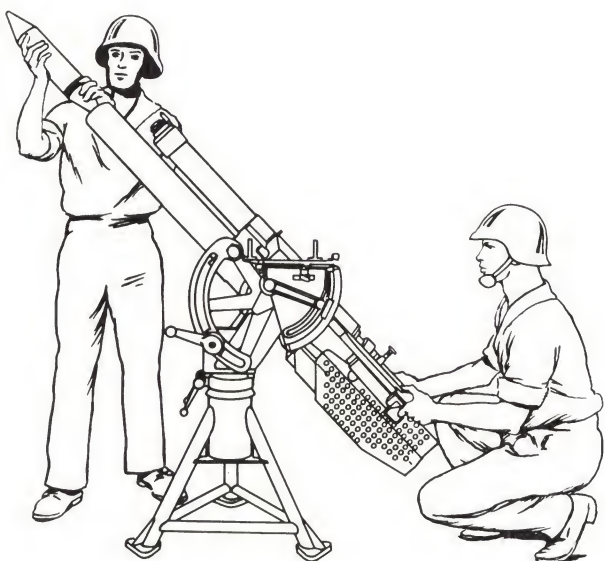
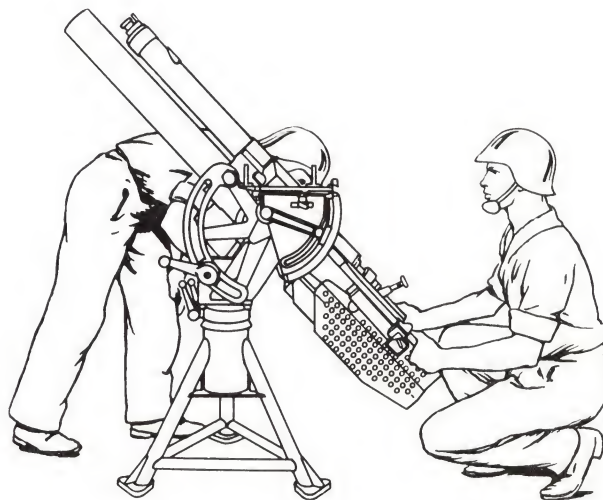

Figure 4-5. Loading Position
Figure 4-6. Loader Avoiding Muzzle Blast
4-19. The loader removes the ammunition from the ready-ammunition box and drops the round into the barrel at the command FIRE. As soon as he releases the round, he ducks to the position shown in figure 4-6.
When loading the mortar during DROP FIRE operation, the loader must stand forward and to the right of the barrel (see figure 4-5). He leans towards the piece only as far as is required to easily drop the round into the barrel and immediately ducks to the position shown in figure 4-6 to avoid the muzzle blast.
4. When directed, the loader drops the round down the barrel with the fuze end up (see figure 4-5). With fuzes having bore-riding pins, the loader must remove the safety wire(s) keeping the thumb or other digit on the bore-riding safety pin until the round is dropped down the barrel. The safety wire(s) shall be removed just before firing and at no other time.
3. Remove hands quickly from front of muzzle after dropping round into the barrel (see figure 4-6).